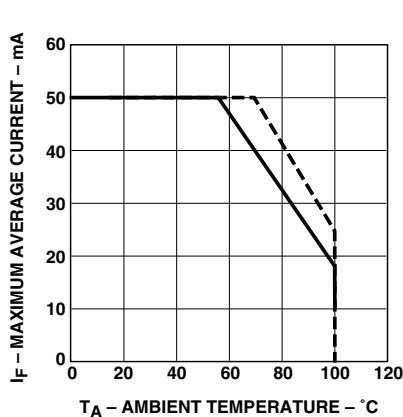

Figure 1. Maximum forward current vs. ambient temperature. Derating based on $T_{JMAX} = 130^{\circ}\text{C}$.
1. Derate linearly as shown in Figure 1.